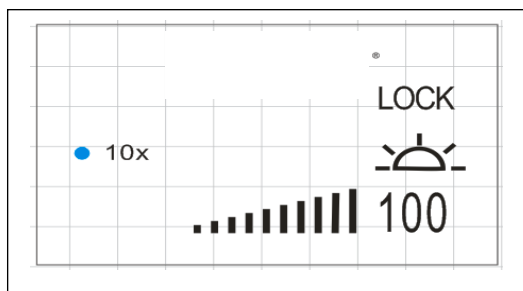

Fig. 19
5. **Double-click Knob: lock brightness or unlock (Fig.19).** The brightness adjustment knob fails when locking, and “LOCK” appears on the LCD screen; Double-click the knob again to release the lock and the “LOCK” on the screen disappears;